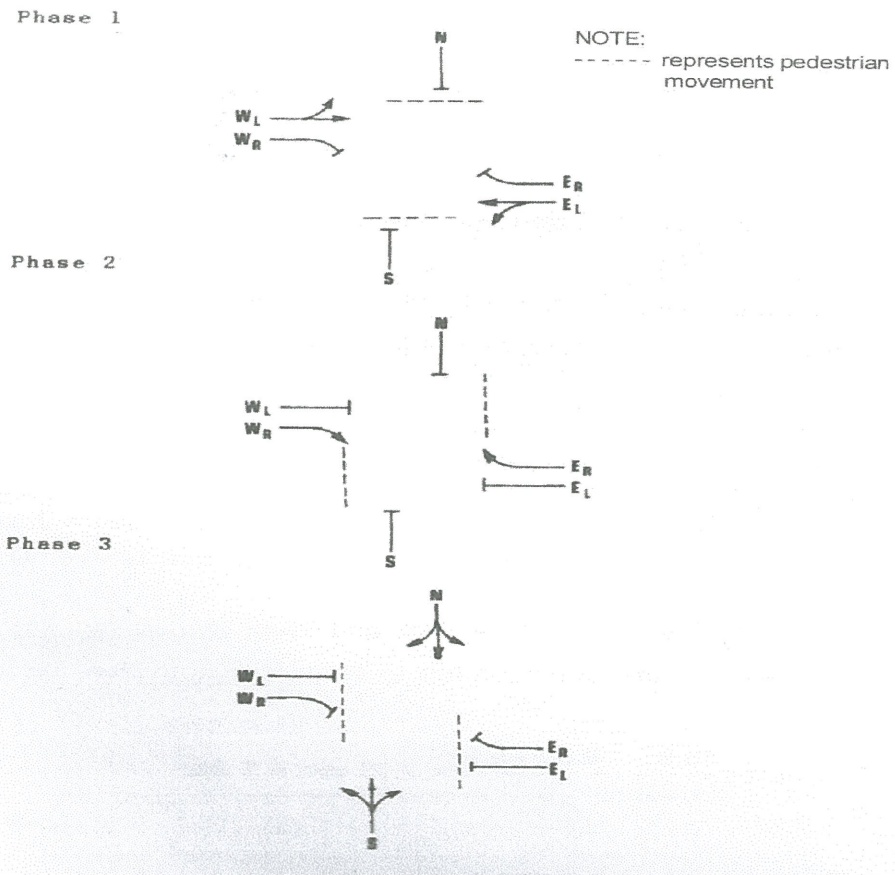

FIGURE Q6
- (e) Parking and Pedestrian are integral parts of Transport Management, why this is important, summarize each **TWO (2)** reasons. (2 marks)
- Q6** (a) Briefly explain **THREE (3)** warrants before come to a decision to install signal control. (6 marks)
- (b) Explain **FOUR (4)** principle ways of safe intersection design. (4 marks)
- (c) The following table Q(6) is a tabulation from data of traffic movement in the intersection, The 3-phase traffic signal as shown in **FIGURE Q6**,